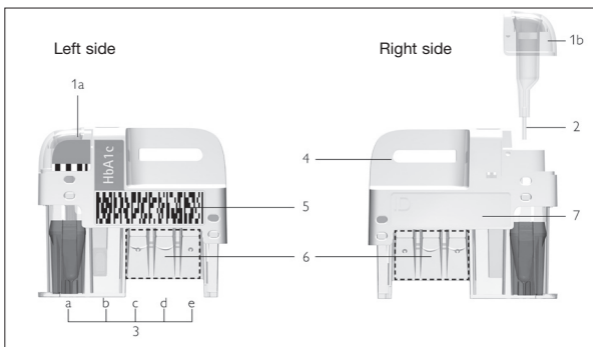

Figure 1 Alere Afinion™ HbA1c Test Cartridge.
The main components of the Test Cartridge are the sampling device (1) and the reaction container (3). The Test Cartridge has a handle (4), a barcode label with lot specific information (5) and an ID area for sample ID (7). See Figure 1 below.
- Do not touch the Test Cartridge optical reading area (figure 1).